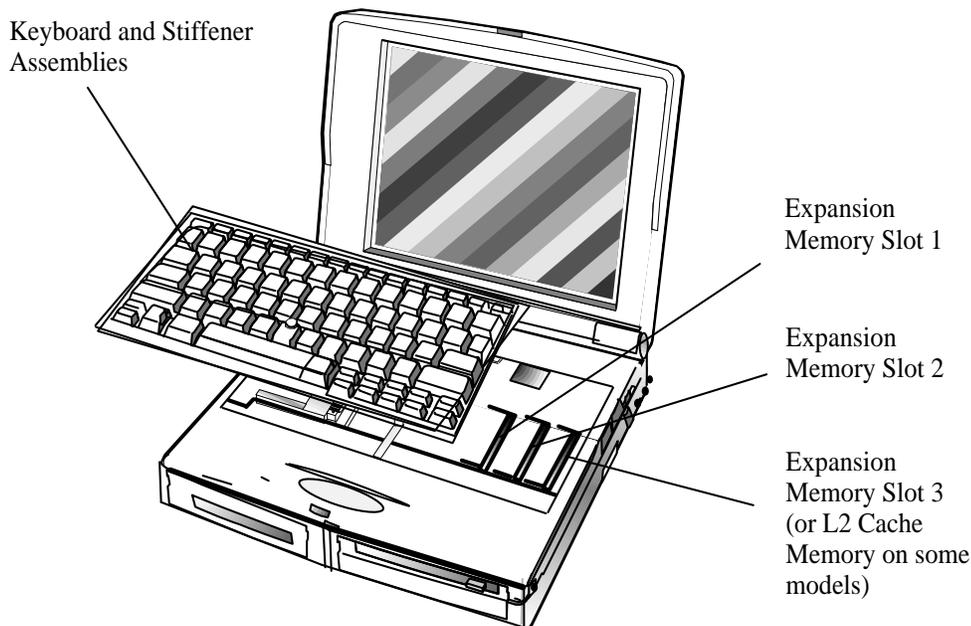

Figure 2-1. Installing Expansion Memory
4. Disengage the keyboard assembly (refer to the procedure in Paragraph 6.6.5) and tilt assembly back against the LCD (Figure 2-1). Also, remove the keyboard stiffener from underneath the keyboard.